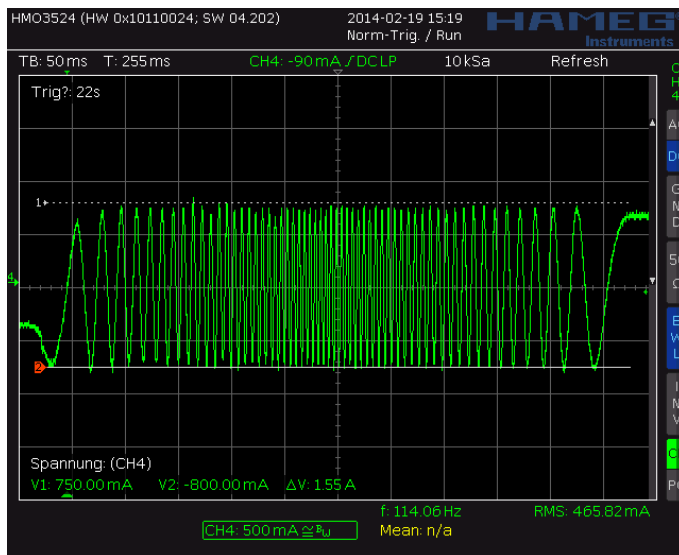
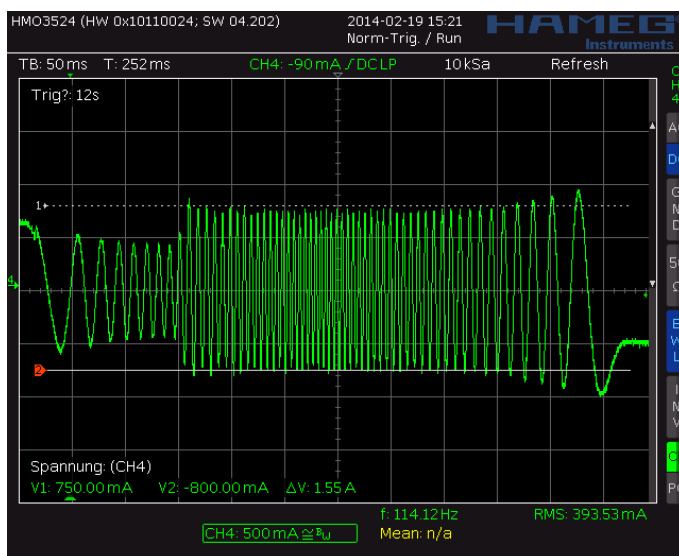
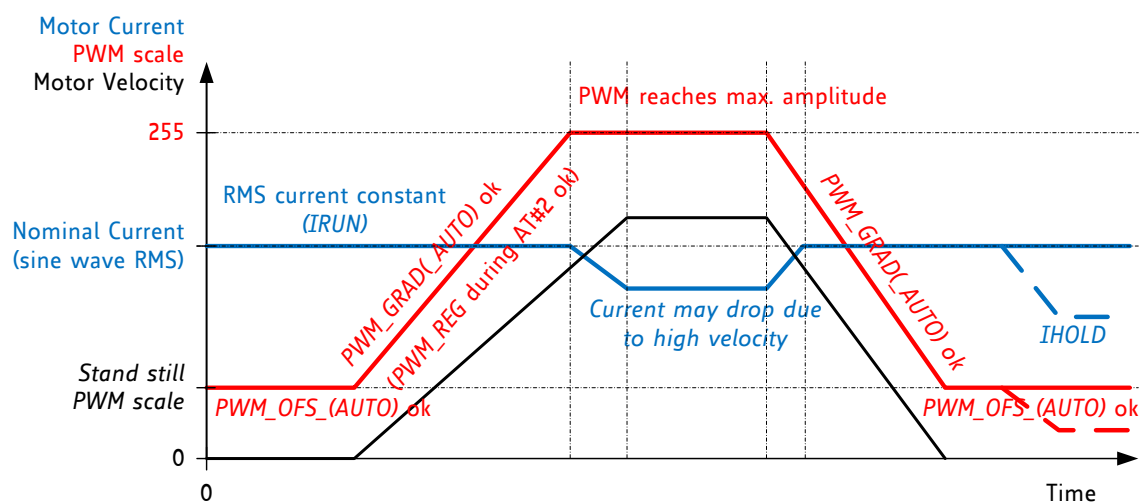

Figure 6.3 Scope shot: good setting for PWM\_REG
Figure 6.4 Scope shot: too small setting for PWM\_REG during AT#2
Figure 6.5 Successfully determined PWM\_GRAD(AUTO) and PWM\_OFS(AUTO)
In StealthChop voltage PWM mode, the autoscaling function (*pwm\_autoscale* = 1, *pwm\_auto\_grad* = 1) regulates the motor current to the desired current setting. Automatic scaling is used as part of the automatic tuning process (AT), and for subsequent tracking of changes within the motor parameters. The driver measures the motor current during the chopper on time and uses a proportional regulator to regulate *PWM\_SCALE\_AUTO* in order match the motor current to the target current. *PWM\_REG* is the proportionality coefficient for this regulator. Basically, the proportionality coefficient should be as small as possible in order to get a stable and soft regulation behavior, but it must be large enough to allow the driver to quickly react to changes caused by variation of the motor target current (e.g. change of VREF). During initial tuning step AT#2, *PWM\_REG* also compensates for the change of motor velocity. Therefore, a high acceleration during AT#2 will require a higher setting of *PWM\_REG*. With careful selection of homing velocity and acceleration, a minimum setting of the regulation gradient often is sufficient (*PWM\_REG*=1). *PWM\_REG* setting should be optimized for the fastest required acceleration and deceleration ramp (compare Figure 6.3 and Figure 6.4). The quality of the setting *PWM\_REG* in phase AT#2 and the finished automatic tuning procedure (or non-automatic settings for *PWM\_OFS* and *PWM\_GRAD*) can be examined when monitoring motor current during an acceleration phase Figure 6.5.